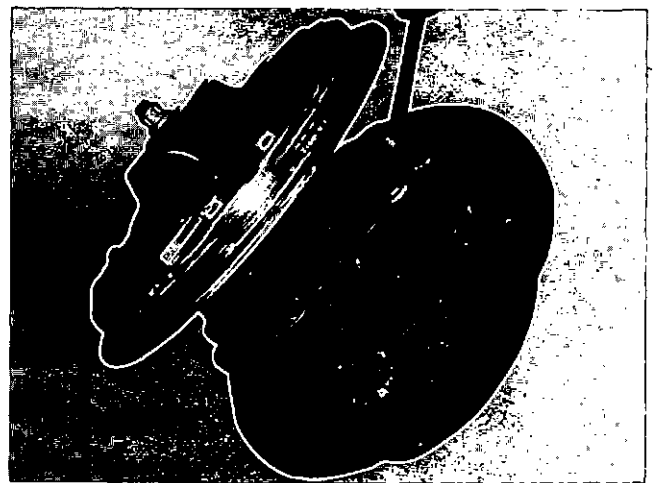

Fig. 5-4, (TA7). Removing the turbine housing capscrews
5. Remove all capscrews holding the turbine housing to the center housing, Fig. 5-4. Remove the lockplates.